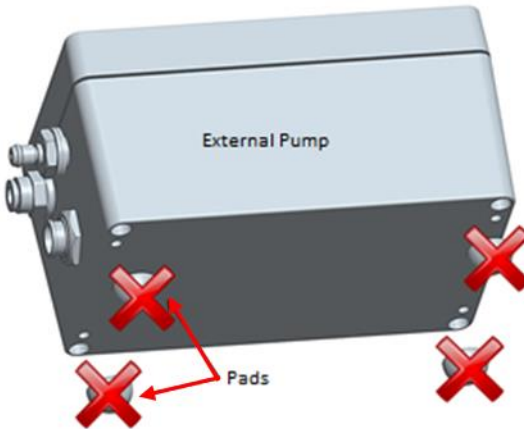

Figure 13: Connect Adapter DC Cable to Enclosure
1. Remove External Pump Pads from the pump enclosure as shown in Figure 13.